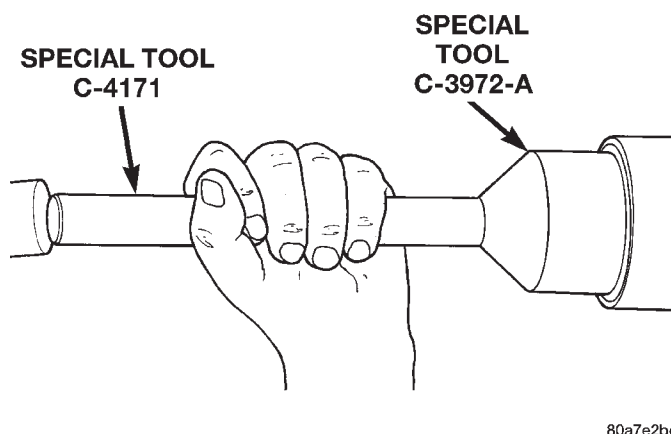

Fig. 45 Pinion Seal Installation
(4) Install front pinion bearing, and oil slinger, if equipped.
(5) Apply a light coating of gear lubricant on the lip of pinion seal. Install seal with Installer C-3972-A and Handle C-4171 (Fig. 45).